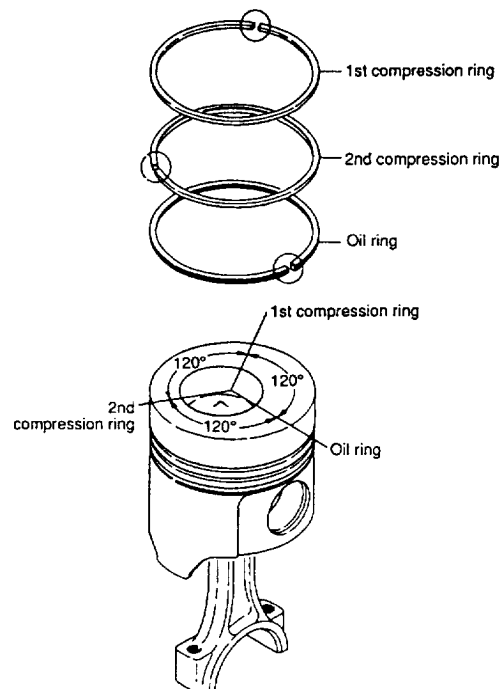

Figure 6-50 Piston rings
- (f) Make sure each piston ring gap is 120 degrees apart (see Figure 6-50).